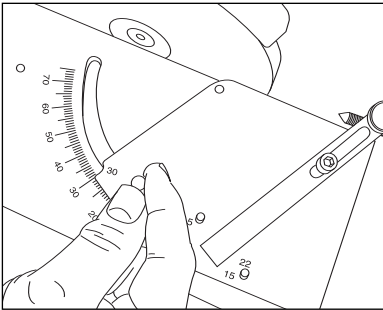

fig. 2
3. Set the die chaser attachment at 30 degrees. (using inside edge of notch as guide. See Fig. 2).